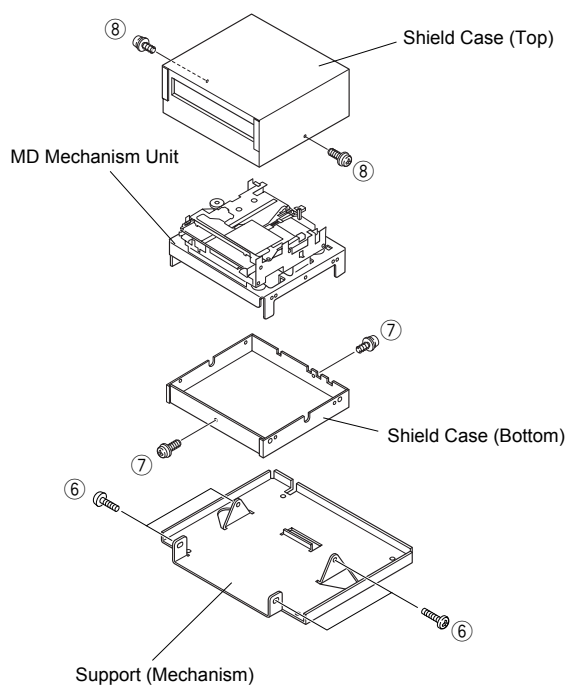

Fig. 2
- c. Remove 4 screws (⑥) in Fig. 2.
- d. Remove 2 screws (⑦) in Fig. 2.
- e. Remove 2 screws (⑧) in Fig. 2.